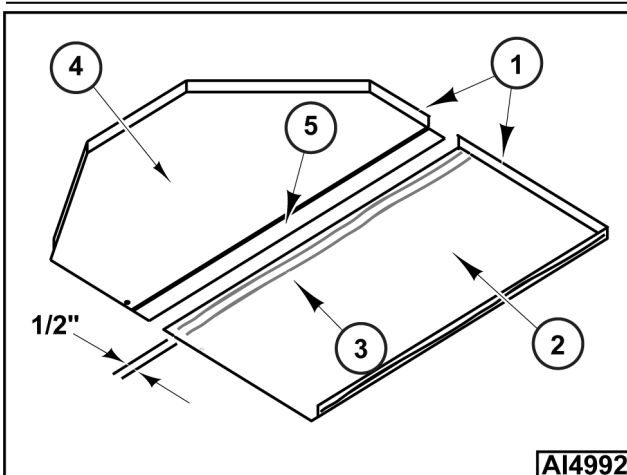

Fig. 46
3. Run a bead of high temp red silicone on the entire outer edge of both floor panels (1, Fig. 46).
4. Install floor panel without offset (2, Fig. 46). Flange goes up.
5. Run two beads of high temp red silicone (3, Fig. 46) on the flange of floor panel without offset.
6. Install remaining floor panel (4, Fig. 46) with offset (5, Fig. 46). Flange goes up.